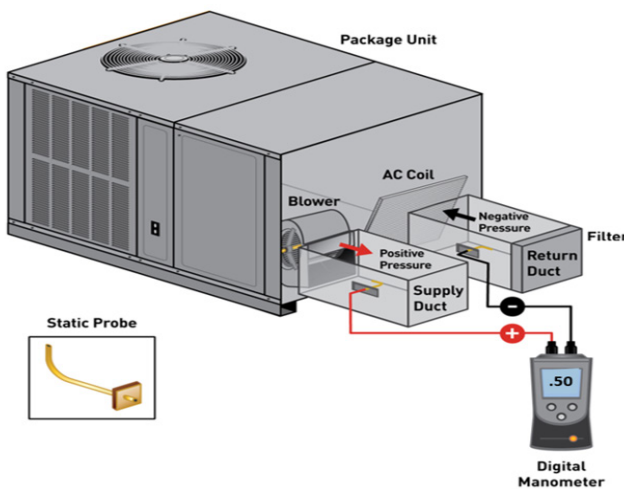

FIGURE 13: TOTAL EXTERNAL STATIC
1. Using a digital manometer measure the static pressure of the return duct at the inlet of the unit (Negative Pressure). SEE FIGURE 13: TOTAL EXTERNAL STATIC.